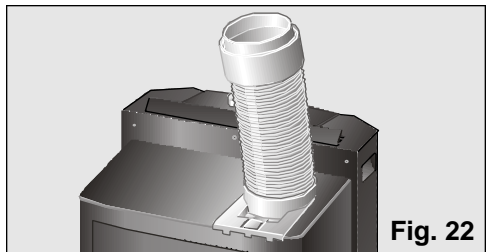

Fig. 22
- Remove the diffusion duct and set the air expulsion tube to the position shown in figure 22.